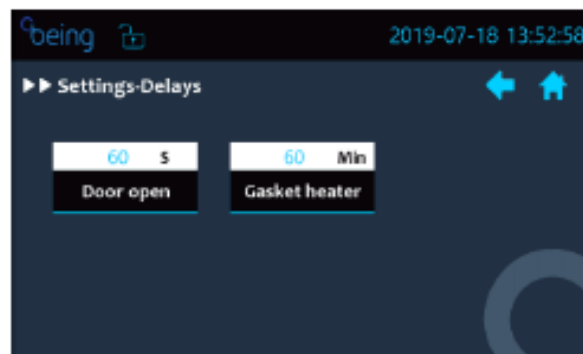

Figure 1-25.
10. Touch the “Delay settings” button from the setting page to enter the delay settings page, as shown in Figure 1-25.